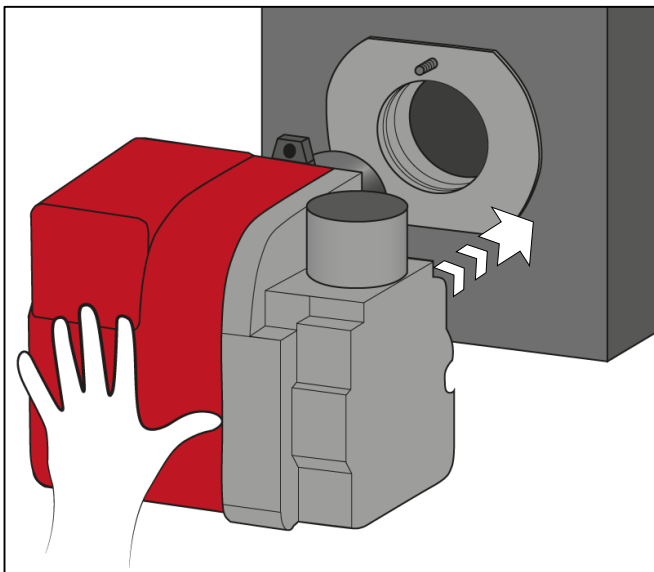

Fig. 1 Pushing in the burner
- ▶ Push the burner into the flange (see Fig. 1).